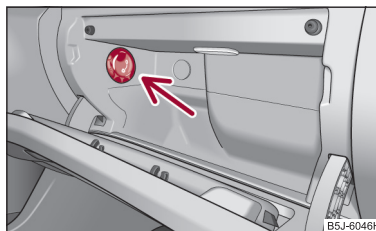

Fig. 80 Storage compartment: Using cooling system
- You can switch the cooling system on or off using the control dial ⇒ fig. 80.